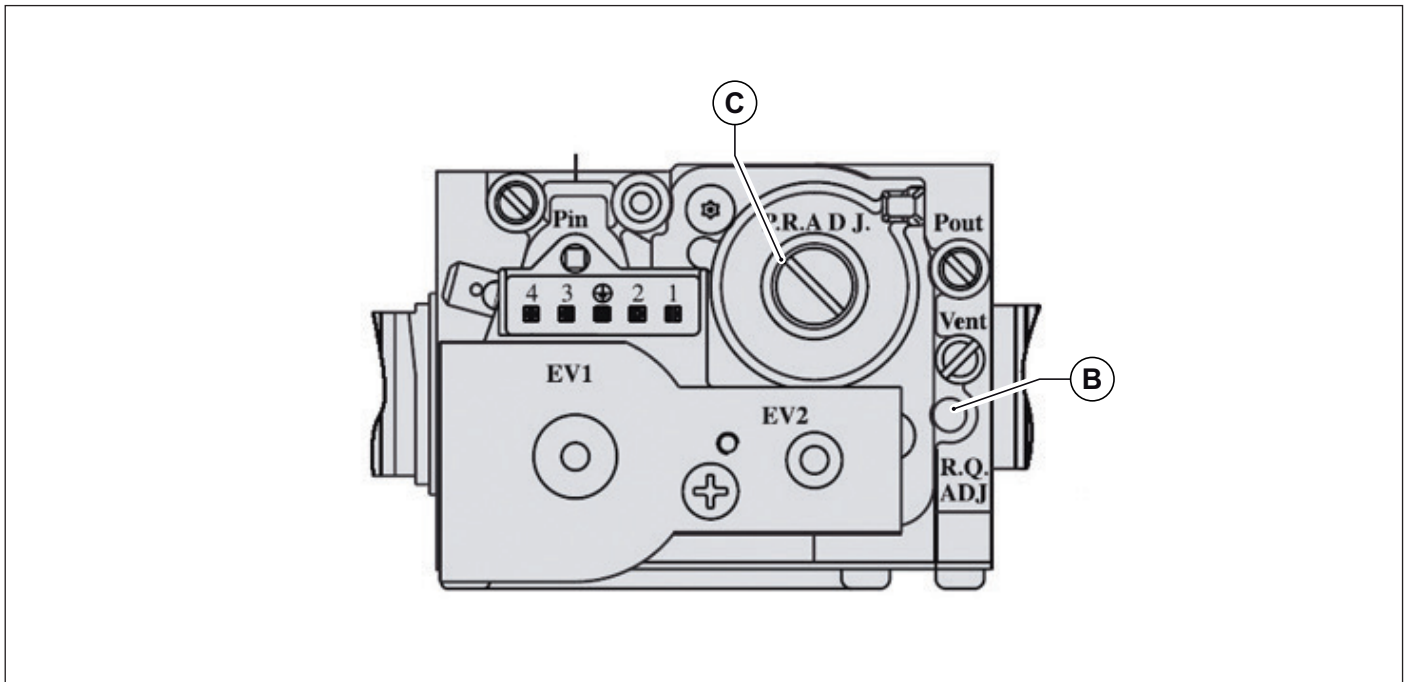

Fig. 32 Adjusting CO2 value
- Set flue gas CO2 content by turning the ratio adjuster **B** (see Fig. 32 Adjusting CO2 value) and ensure that reading falls within the limits of Tab. 23 Flue CO2 content. Let boiler flue cleaning function on and continue with the next point "Minimum heating output adjustment".
- Set flue gas CO2 content by turning the offset control **C** (see Fig. 32 Adjusting CO2 value) and ensure that reading falls within the limits of Tab. 23 Flue CO2 content.